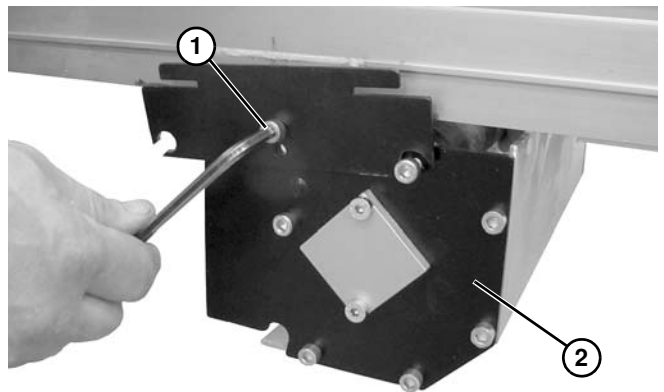

Figure 49
5. Loosen screw (**Figure 49, item 1**) on both sides of the conveyor to remove center drive module (**Figure 49, item 2**).